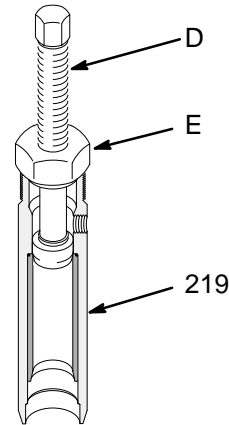

Fig. 16 0028
To use the tool: screw the large nut (E) of the tool into the top of the cylinder (219). Screw down the rod (D) to push the sleeve out. Remove the tool. See Fig. 16.